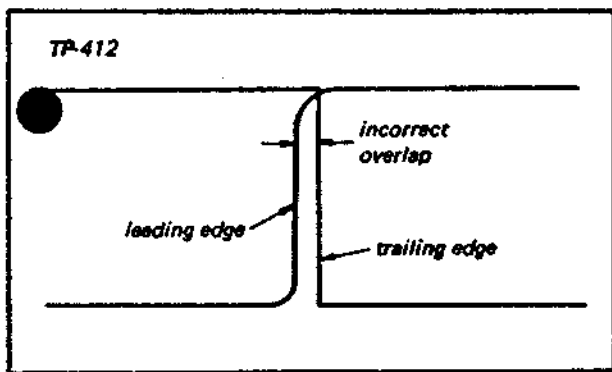

Fig. 6-9. 25 PG Pulse phase check
5. Pull out the 5X magnifier and adjust the HORIZONTAL POSITION control to observe the leading edge of either pulse. See Fig. 6-9.